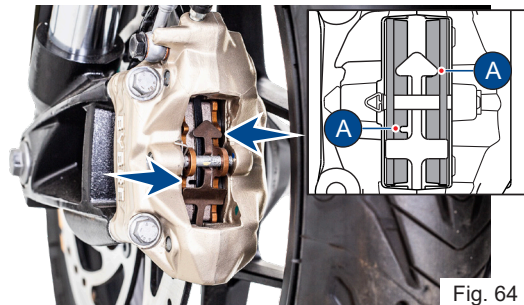

Fig. 64
- If the wear is found beyond the wear indicator (A & B) groove as shown in the figure in any one of the pad, replace brake pads as a set with a new one (ref. Fig. 64 & 65).